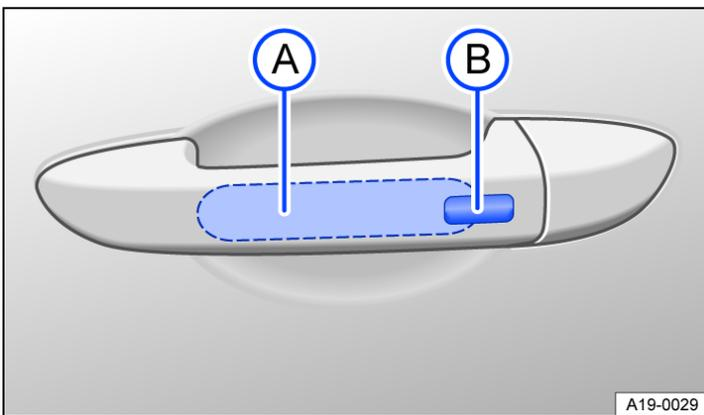

Fig. 2 In the door handle: sensors.
- Touch the sensor surface → Fig. 2 **A** on the inside of the driver or front passenger door handle.
- Touch sensor → Fig. 2 **B** on the outside of the driver's or front passenger door handle.
- Then touch the sensor on the outside of the door handle → Fig. 2 **B** once within five seconds. Do not put your hand around the door handle when doing this.